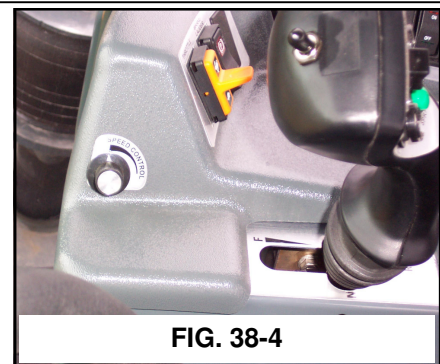

FIG. 38-4
**SPEED CONTROL**— Speed control may be adjusted with the speed control dial (fig. 38-4) This will conveniently help regain consistent field speeds when reentering a field from the end rows.